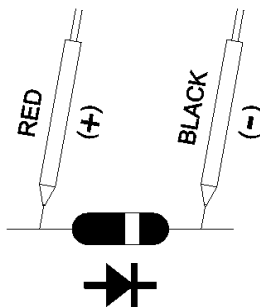

Fig. 2
- 5) a. When connected with polarity as shown in Fig. 2, a forward current flow is established and the approx. Diode Forward Voltage (VF) value in volt will appear on the display reading. If the diode under test is defective, " 0.000 " or near " 0.000 " value (short circuit) " OL " (open circuit) will be displayed.